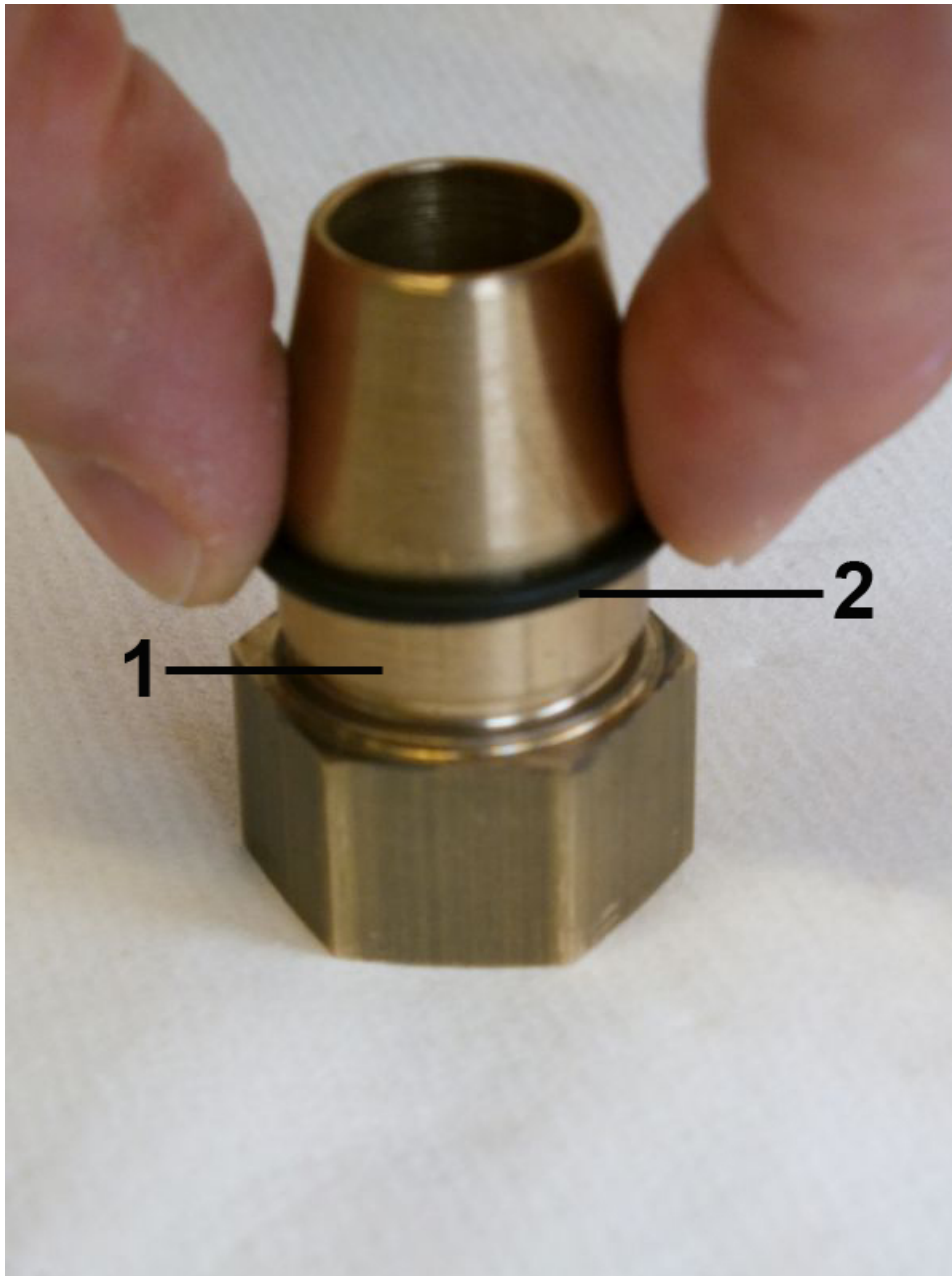

Fig. 30: O-ring (seal)
- 1.** ➤ Carefully install the O-ring (*Fig. 30/2*) with the aid of the O-ring installation tool (*Fig. 30/1*) onto the process connection (outlet), so that it is properly seated in the O-ring groove of the process connection (*Fig. 31*). When doing so, take care not to overstretch the O-ring.